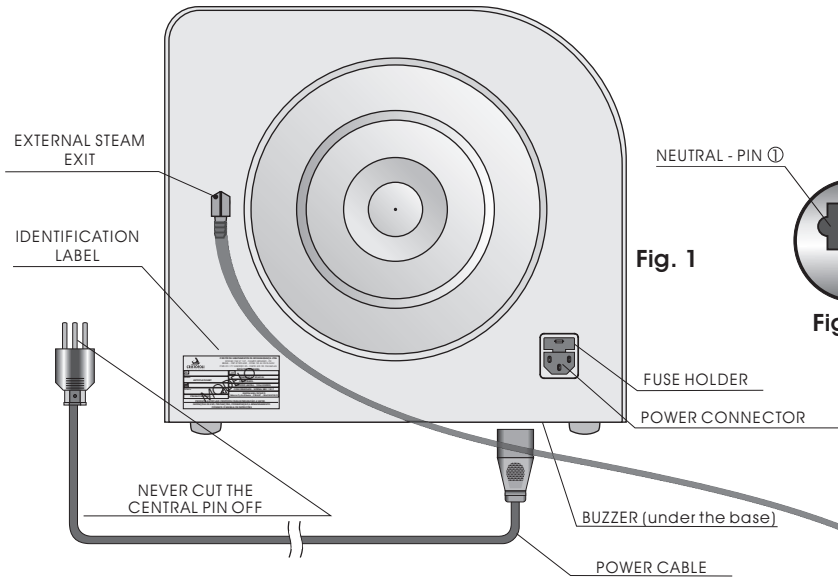
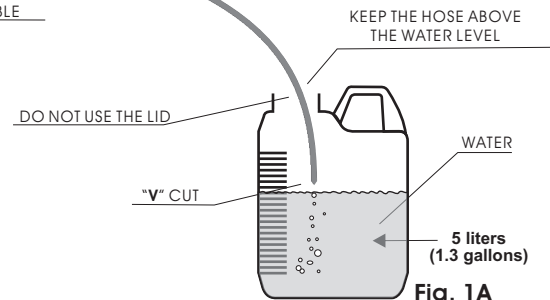

Fig. 1
Fig. 1A
Purchase a heat resistant rubber hose (5/16", 300 psi as sample provided) and connect it to the external steam exit (Fig. 1) located in the back part of the autoclave, put the clamp on (also provided, Fig. 12, page 10) and fasten it with a screwdriver. The other end must be connected to the plumbing system into a special pipe that can tolerate at least 100°C (212°F) or to an open container positioned about 40 cm below the level of the autoclave with water inside for steam discharge (Fig. 1A), in this case, the hose must be **above the water level** with a "V" cut on its end and must be inspected **yearly** for obstructions and general condition.
- 9►EXTERNAL STEAM EXIT** - Located in the back part of the autoclave (Fig. 1, page 8), it has a diameter of 5/16" for the connection of the discharge hose, which is then connected to the plumbing system or proper container for this purpose. It releases the cold air in the beginning of the cycle and the steam at the end of it. See "Installation Instructions" topic "Hydraulic Installation" (Page 8).
- 15► **POWER CABLE** - Used to connect the equipment to the power outlet (Fig. 1, page 8 and Fig. 11, page 10);
- 17► **BUZZER** - Internal device located under the base of the autoclave. Its function is to emit the beeps produced by the autoclave (Fig. 1, page 8);